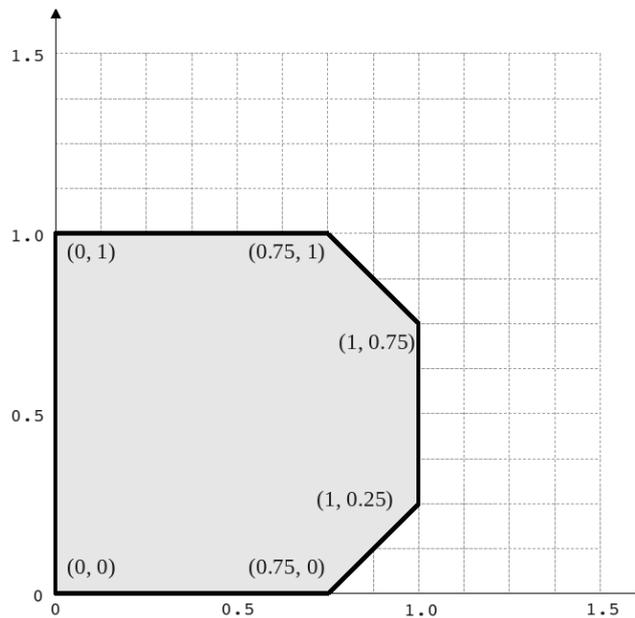
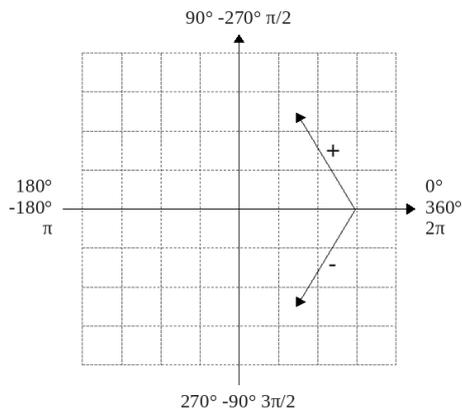
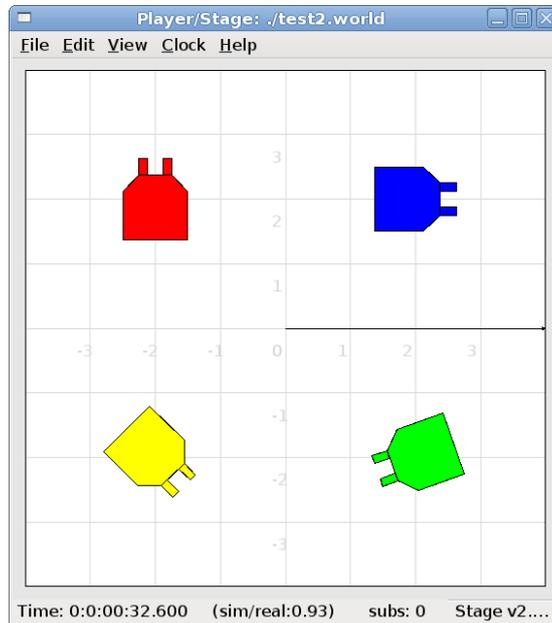

Figure 8: The basic shape we want to make Bigbob, the units on the axes are in metres.
Figure 10: A cartesian grid showing how angles are described.
Figure 11: Starting from the top right robot and working anti-clockwise, the yaws of these robots are 0, 90, -45 and 200.
**The Robot’s Body** Let’s say we want to model a rubbish collecting robot called “Bigbob”. The first thing we need to do is describe its basic shape, to do this you need to know your robot’s dimensions in metres. Figure 8 shows the basic shape of Bigbob drawn onto some cartesian coordinates, the coordinates of the corners of the robot have been recorded. We can then build this model using the `polygons` model parameter16:
You may have noticed that in figures 8 and 9 Bigbob is facing to the right of the grid. When you place any item in a Player/Stage simulation they are, by default, facing to the right hand side of the simulation. Figure 5 shows that the grids use a typical Cartesian coordinate system, and so if you want to alter the direction an object in the simulation is pointing (its “yaw”) any angles you give use the x-axis as a reference, just like vectors in a Cartesian coordinate system (see figure 10) and so the default yaw is  $0^\circ$ . This is also why in section 3.1 the `gui_nose` shows the map is facing to the right. Figure 11 shows a few examples of robots with different yaws.
By default, Player/Stage assumes the robot’s centre of rotation is at its geometric centre based on what values are given to the robot’s `size` parameter. Bigbob’s `size` is `1.25 x 1` so Player/Stage will place its centre at `(0.625, 0.5)`, which means that Bigbob’s wheels would be closer to its teeth. Instead let’s say that Bigbob’s centre of rotation is in the middle of its main body (shown in figure 8) which puts the centre of rotation at `(0.5, 0.5)`. To change this in robot model you use the `origin [x-offset y-offset z-offset]` command: